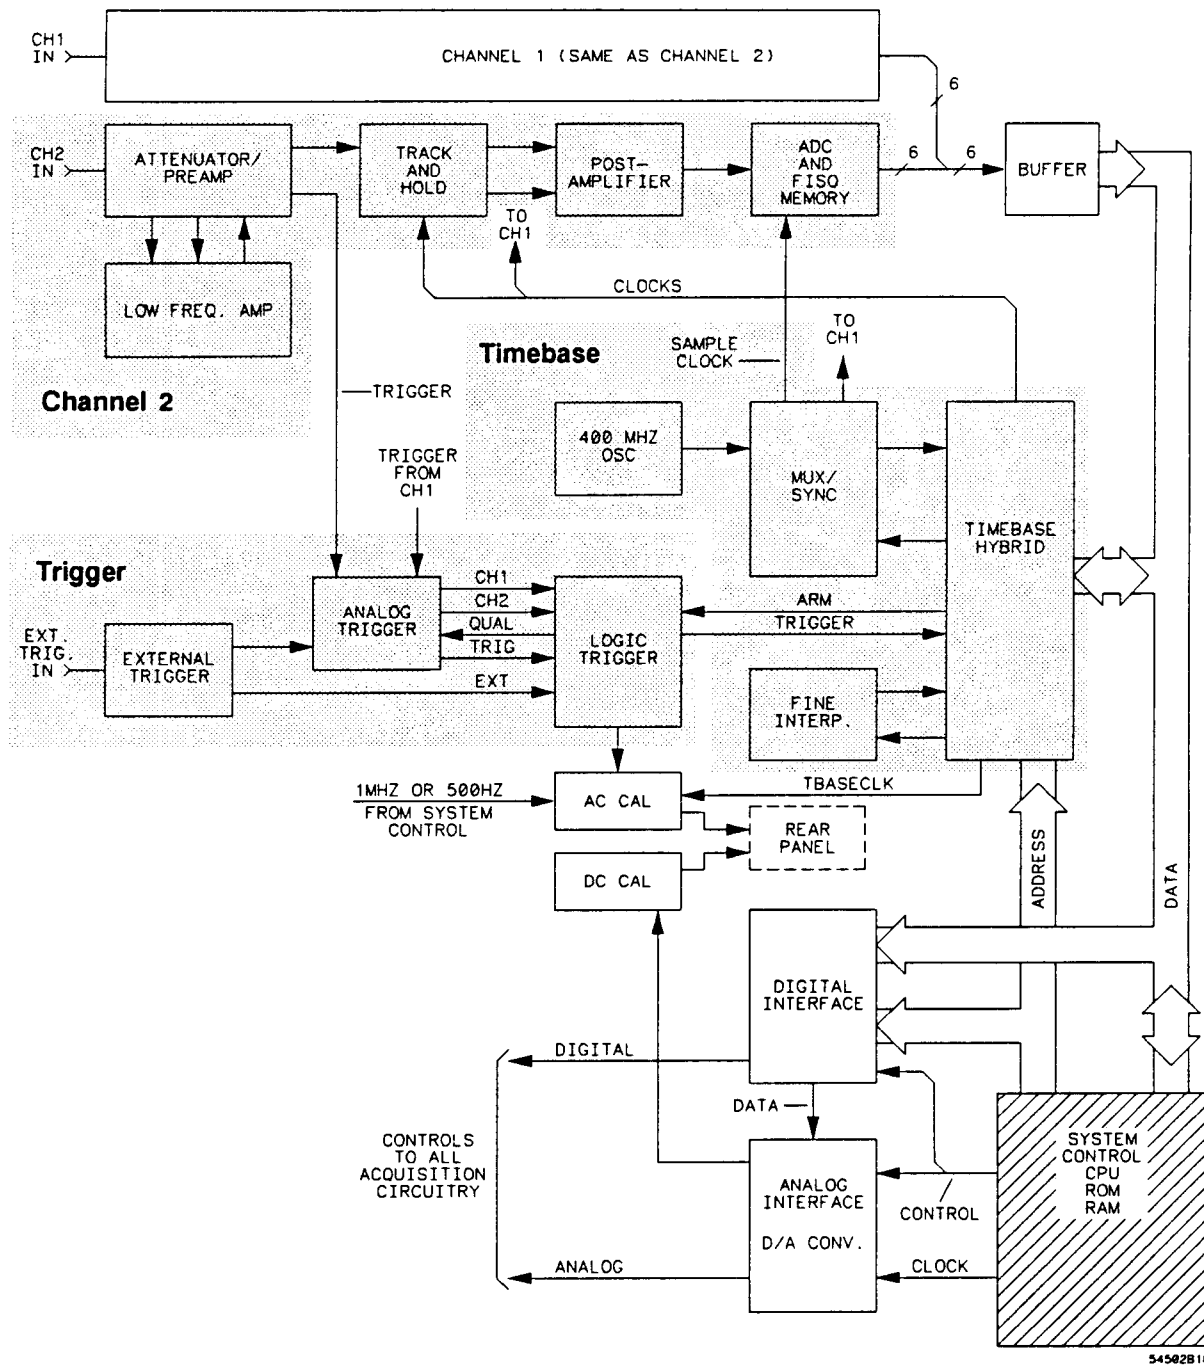
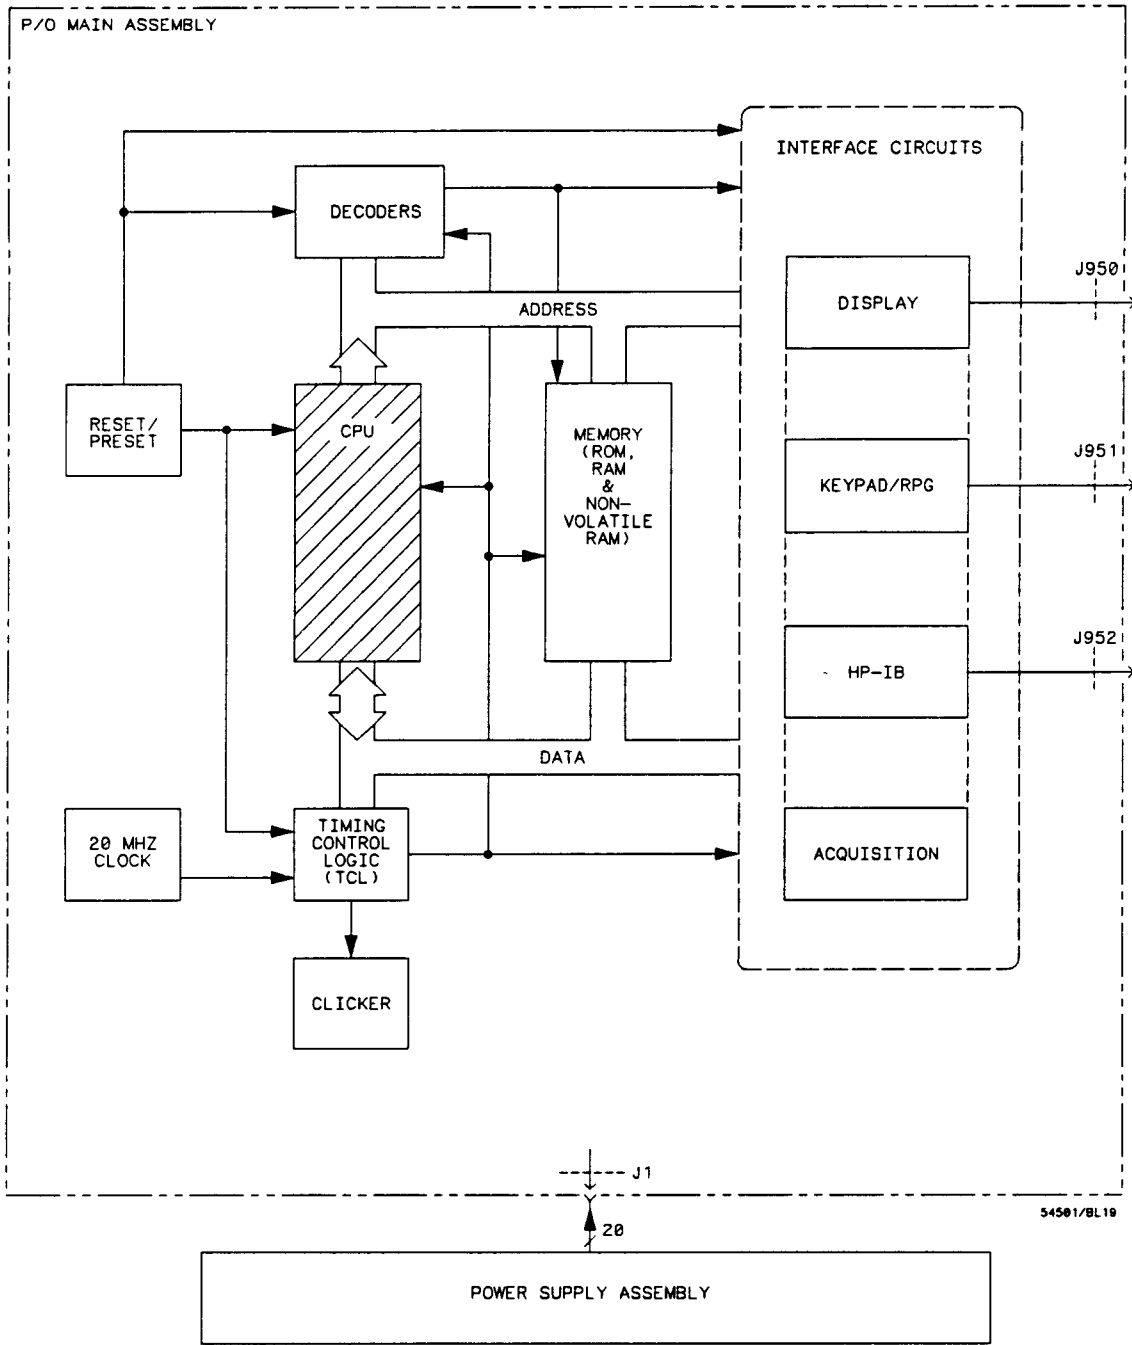

Figure 6-2. Acquisition Block Diagram
Figure 6-3. System Control Block Diagram
The Main Assembly consists of a 68000 microprocessor and its associated circuitry, and acquisition circuitry. The main block diagram has been divided into two sections: acquisition and system control. Figure 6-2 shows the acquisition block diagram and figure 6-3 shows the system control block diagram.
**System Control** The system control consists of the microprocessor, ROM, RAM, and the associated circuitry required to control the acquisition section and the CRT Monitor. It includes the HP-IB and keyboard interfaces. Figure 6-3 (previous page) shows the block diagram for system control.